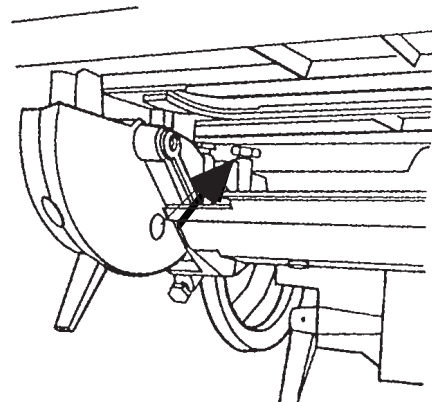

Figure C-20
12. Both 90° stops (shown in Figs. C-20 and C-21) should contact the underside of the table. If they don't, use a 1/2" wrench to adjust the stops.